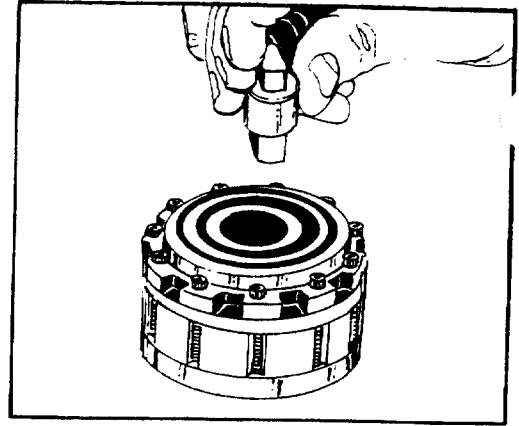

FIGURE 67.
20. Insert large tang of the drive link (16) into the slot in the rotor (24). See figure 67.